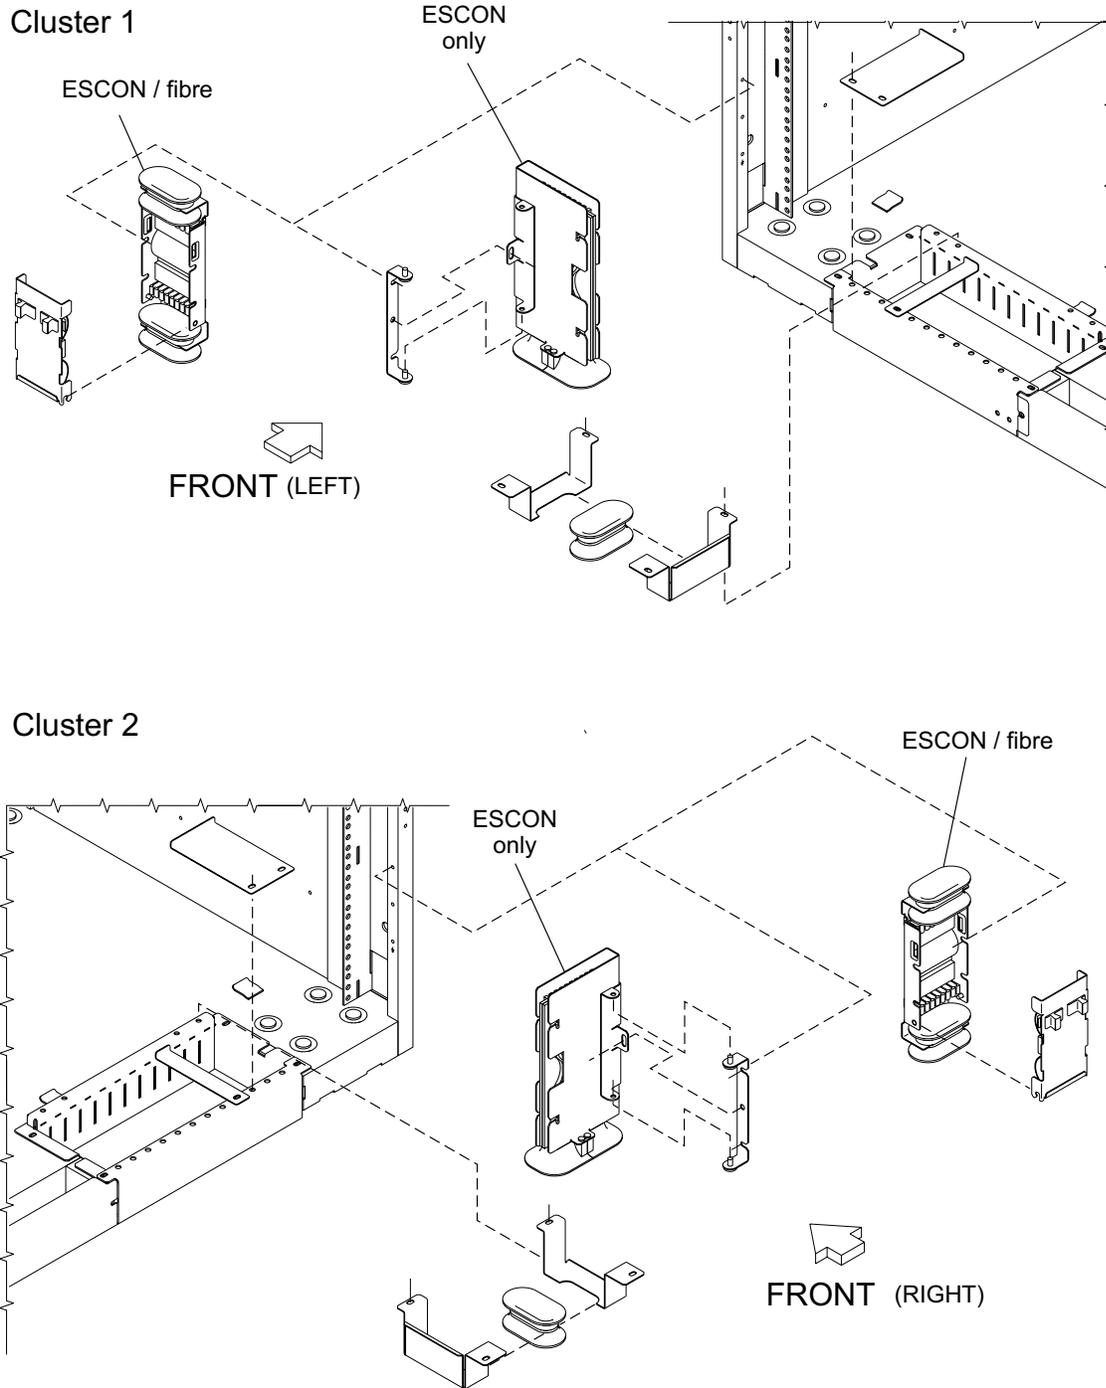

Figure 311. ESCON and ESCON/fibre Strain Relief Hardware (S009012S)
- 3. Determine if you have an ESCON only gate or ESCON/fibre bracket for cable strain relief. See Figure 311 on page 315.